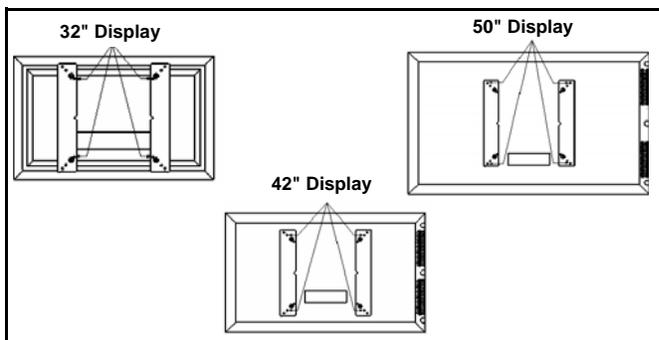

Figure 9: Bracket Attachment Location
4. Attach mounting bracket to the display (See Figure 9:), as follows: